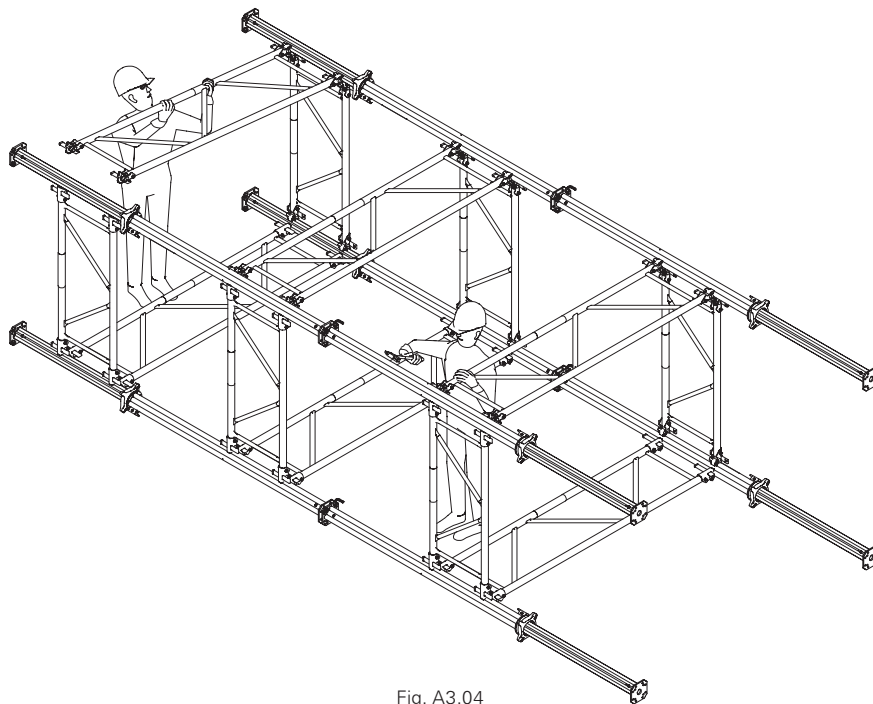

Fig. A3.04
6. Montare i telai MP MRK superiori **(2)**. (Fig. A3.04)